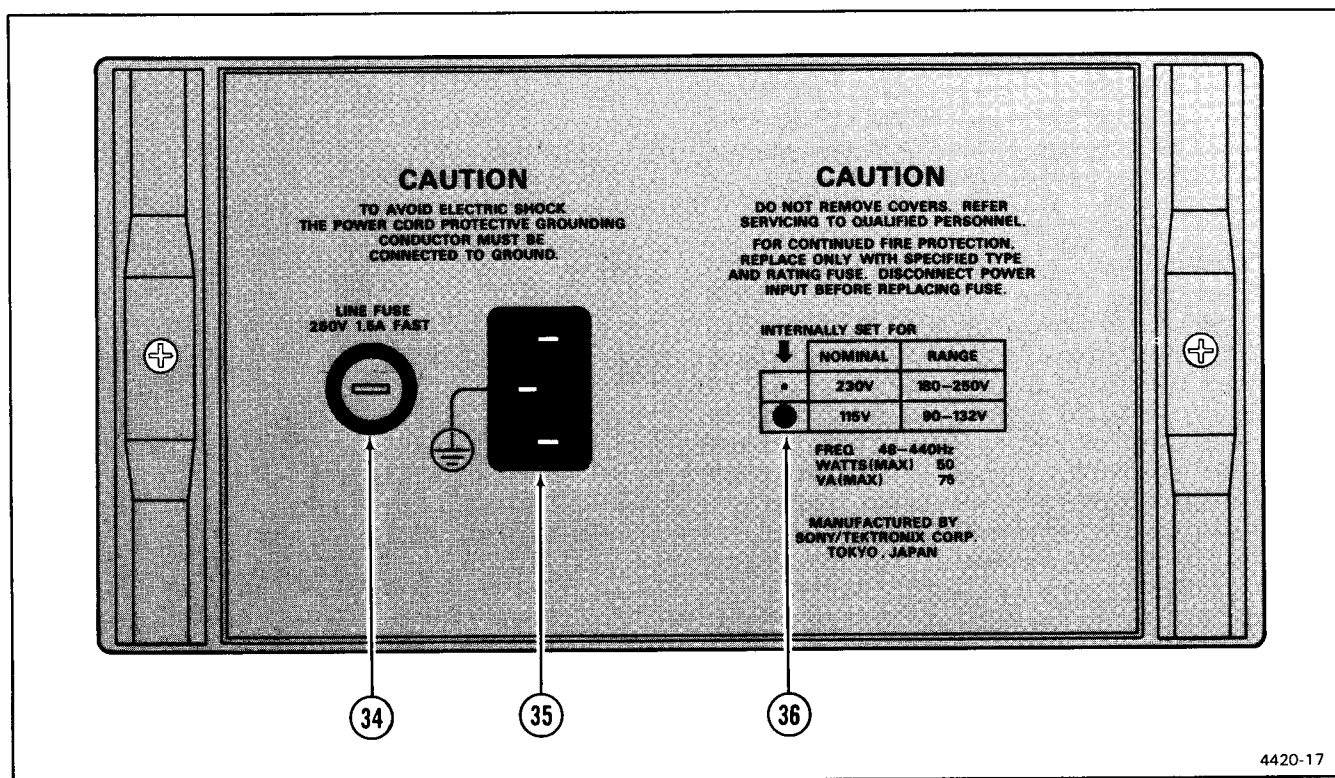

Figure 2-12. Rear panel.
Refer to Figure 2-12 for items 34 through 36.